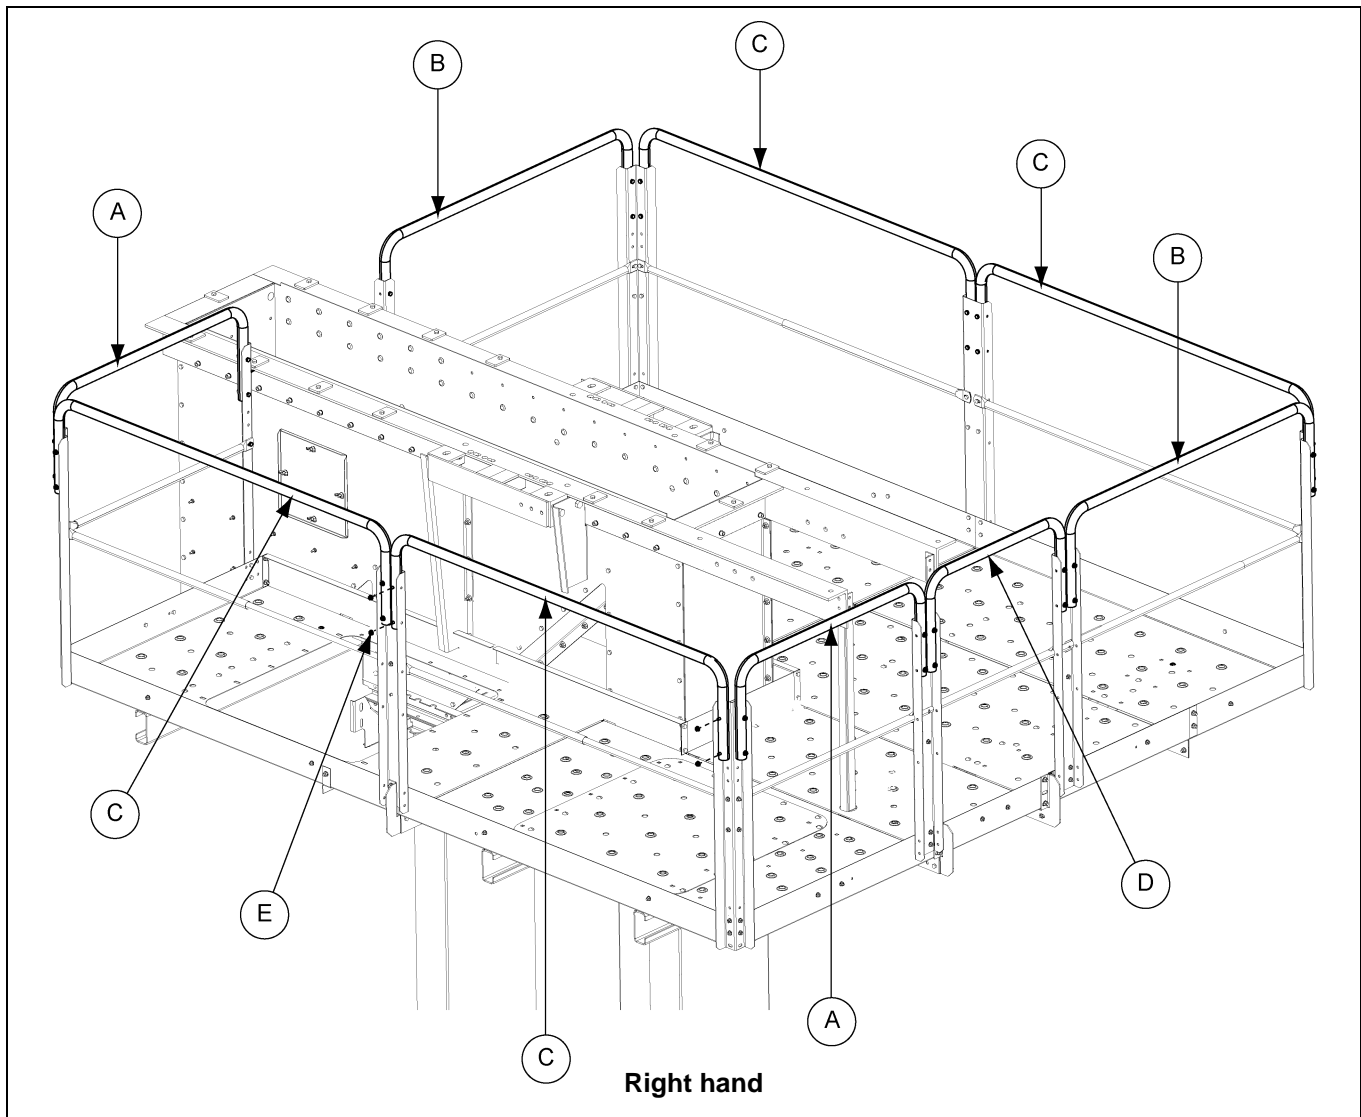
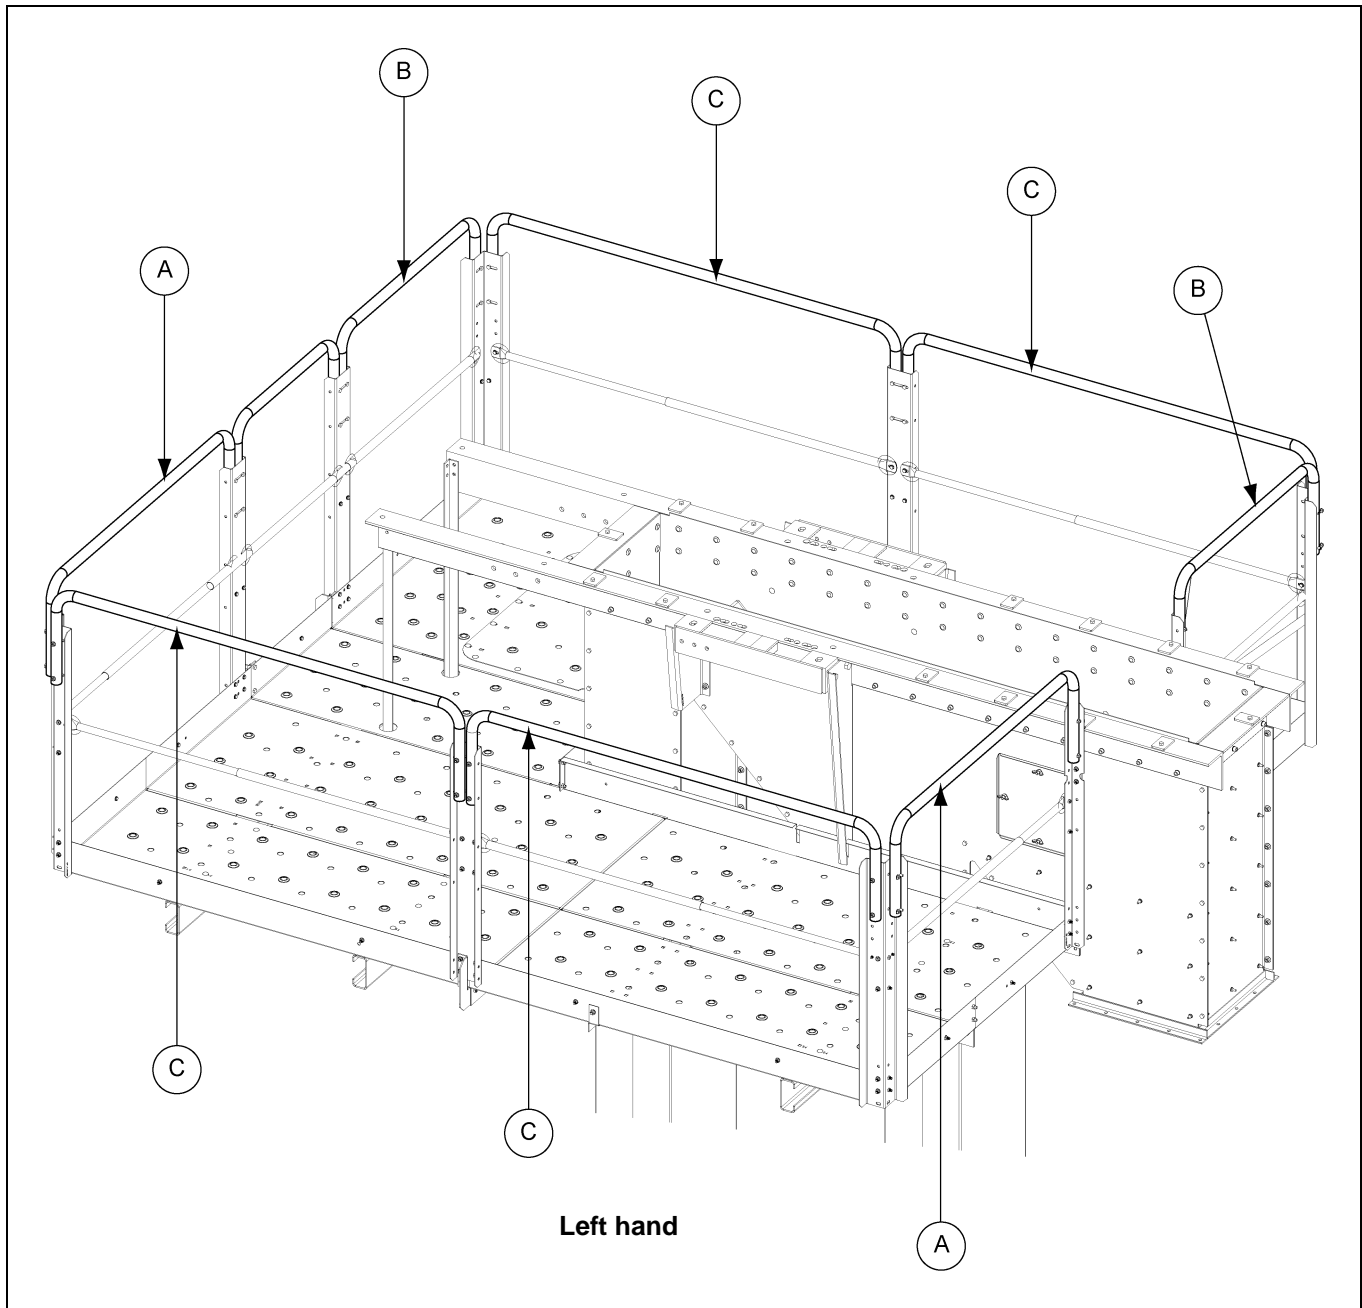

Figure 10L Right Hand Drive Rail Locations
Figure 10M *Left Hand Drive Rail Locations*
1. Attach handrails to the handrail posts using 5/16" x 2" bolts (S-7877) and hex nuts. Use Figure 10L below and Figure 10M on Page 87 for handrail location.